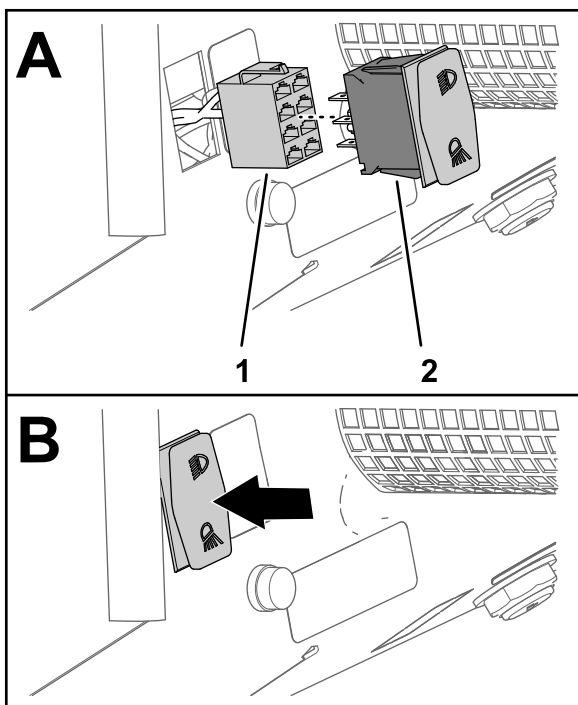

Figure 31
5. Plug the rocker switch from the kit into the 8-socket connector for the headlight switch (Figure 31).
6. Insert the rocker switch into the opening in the dash panel until the switch snaps securely into the dash (Figure 31).